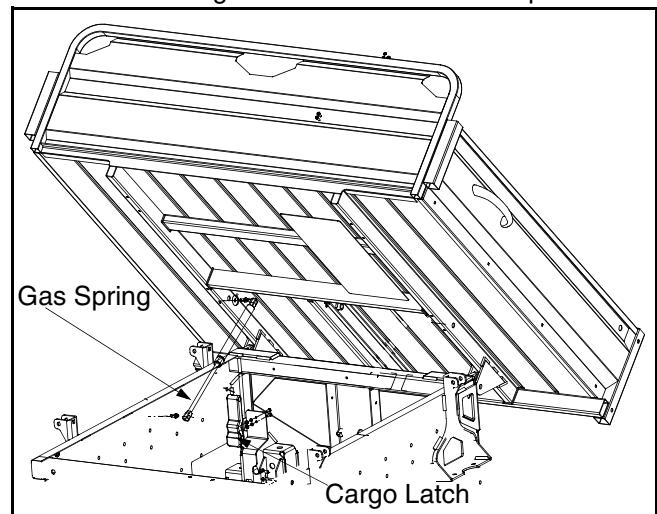

Figure 12
- Empty cargo by hand and unhook cargo box latch located in front of box. See Figure 12.